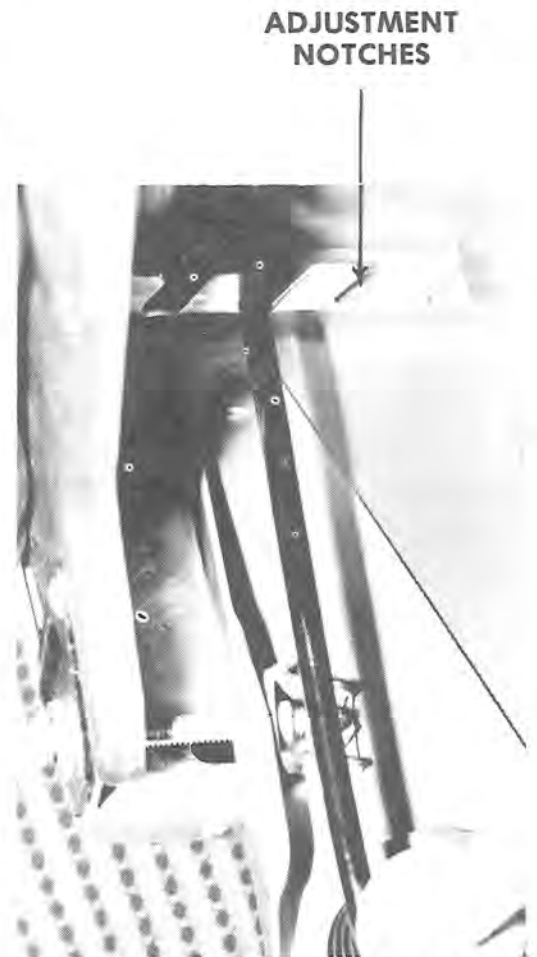

FIG. 5-11
2. To adjust, move spring tang to desired slot, making certain that each spring is tightened or loosened the same amount. Check track alignment after changing spring setting. (FIG. 5-11).